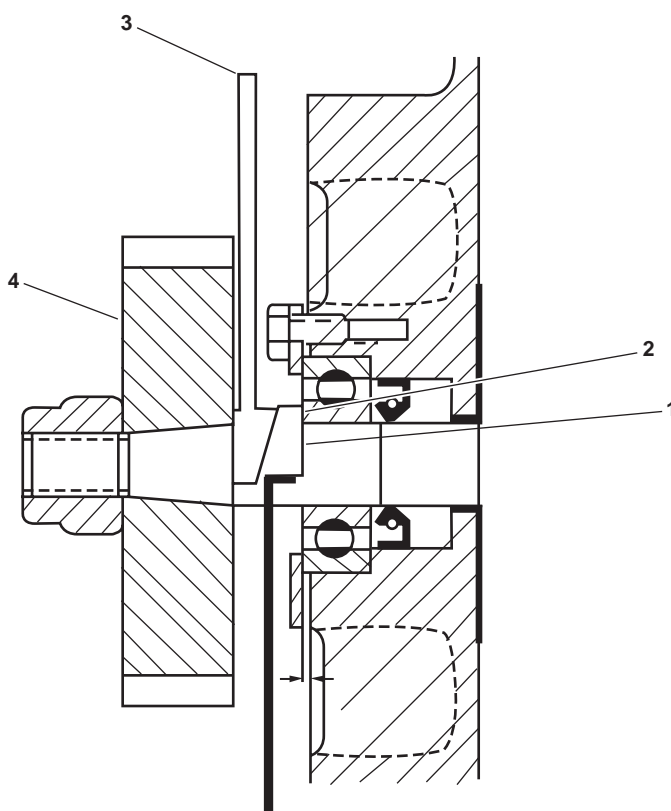

Figure 4. Impeller Thrust Adjustment
37. Adjust the thrust for the impeller (figure 1, item 13) by placing the flat side of the thrust adjuster saddle (figure 4, item 1) against the bearing's inner race (figure 4, item 2) and the flat side of the thrust adjuster fork (figure 4 item 3) against the back side of the gear (figure 4, item 4).
38. Install a 0.003 inch (0.8 mm) feeler gauge between the impeller (figure 1, item 13) and the gear end head plate (figure 1, item 9). Tap on the top of the thrust adjuster fork (figure 4, item 3) until the feeler gauge becomes snug.